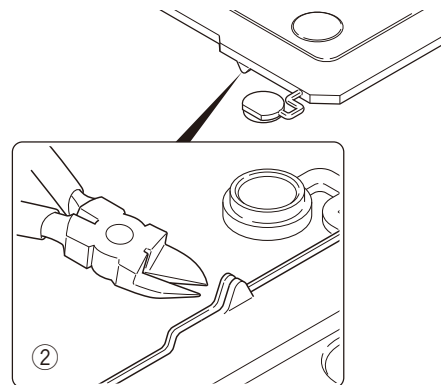

Fig. 6-3 / 图 6-3
Note: If the GPS receiver is installed, cut the base of the convex tab of the top packing with a pair of nippers, or similar tool. (Fig. 6-3 ②)
注意: 如果安装了 GPS 接收机，请用镊子或类似工具剪断顶盖凸起的底部。(图 6-3 ②)